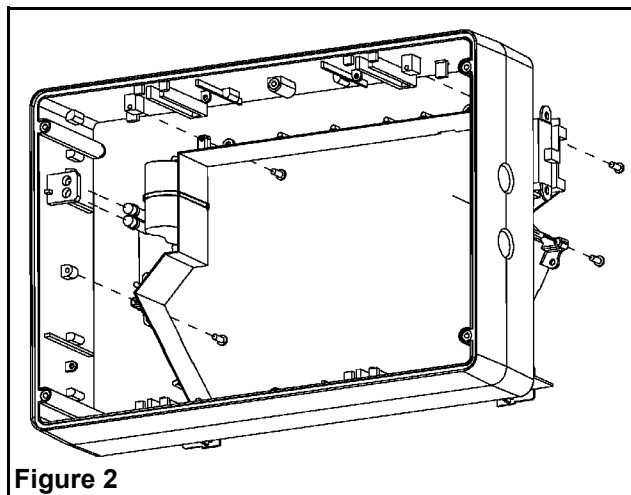

Figure 2
- g. In order to access the knockouts of the frame, remove the 4 electronic module screw(s) holding the electronic module to the frame and separate them (see fig.2).